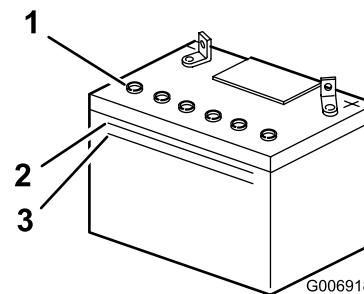

Figure 25
2. Look at the side of the battery. The electrolyte should be up to the Upper line (Figure 25).
Note: Do not allow the electrolyte to fall below the Lower line (Figure 25).
- Remove the vent caps from the battery (Figure 25).
- Slowly pour distilled water into each battery cell until the electrolyte level is up to the Upper line (Figure 25) on the battery case.
- Wait 5 to 10 minutes after filling the battery cells. Add distilled water, if necessary, until the electrolyte level is up to the Upper line (Figure 25) on the battery case.